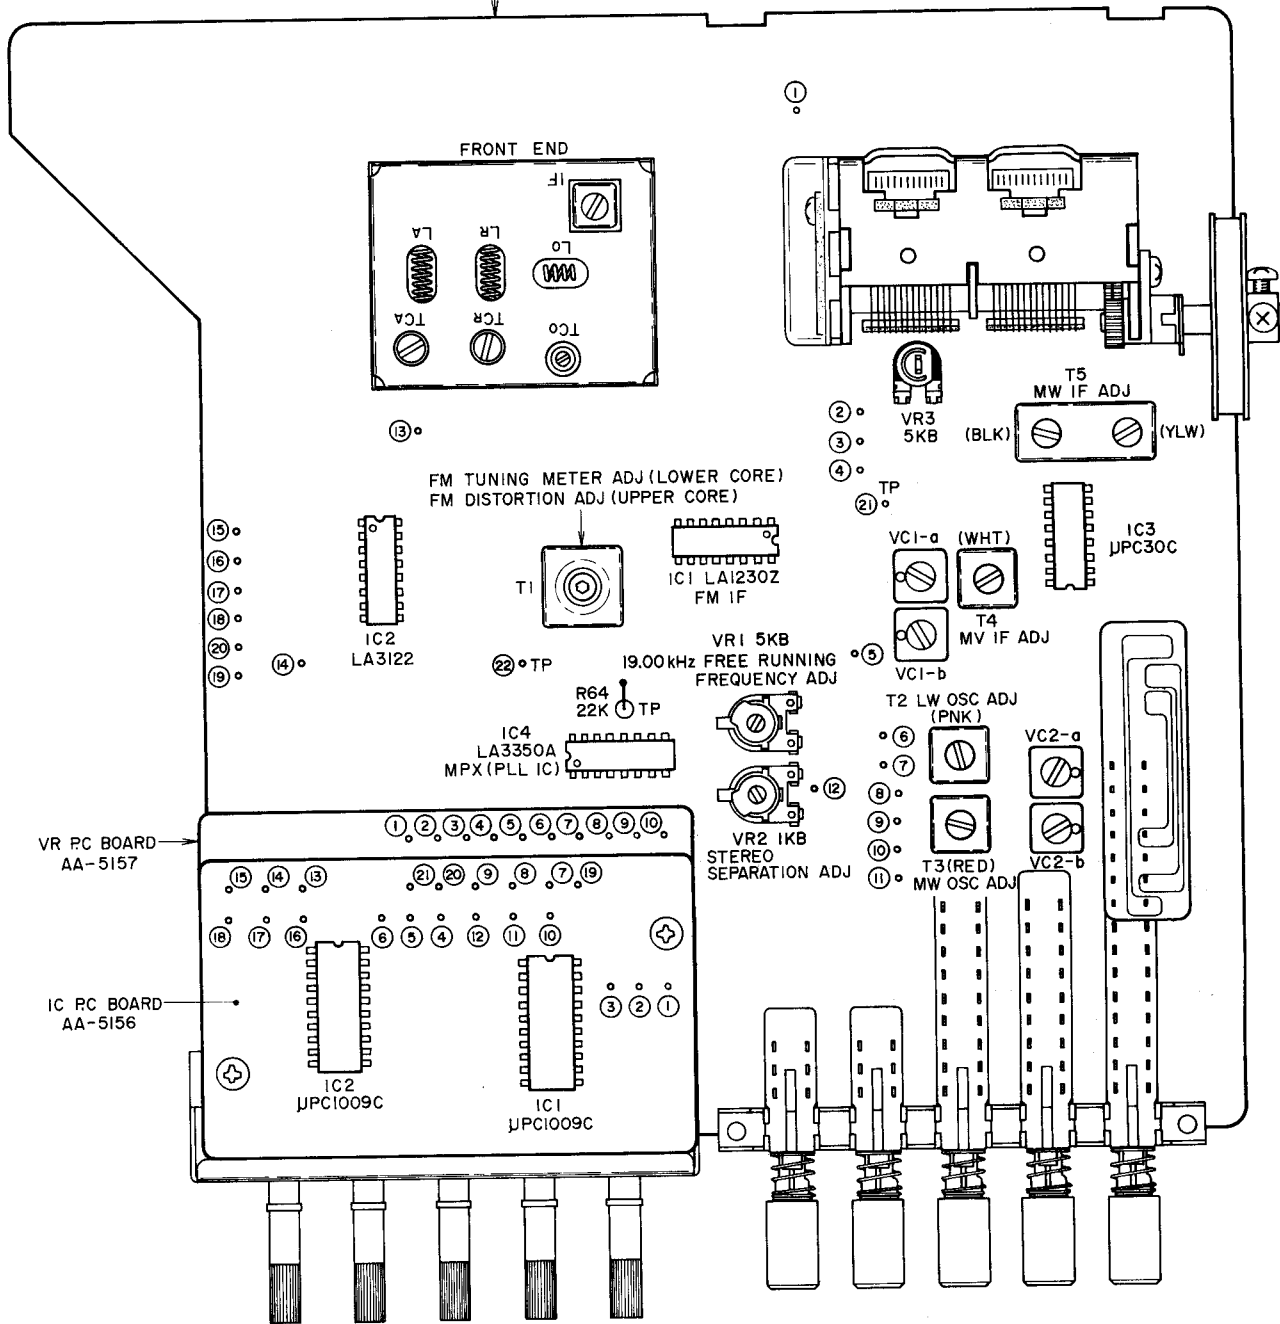

Fig. 10 Multi Function P.C Board AA-5159A
1. FM SECTION ADJUSTMENT (Refer to Fig. 10)
2. LW SECTION ADJUSTMENT (Refer to Figs. 10 and 11)
3. MW SECTION ADJUSTMENT (Refer to Figs. 10 and 11)